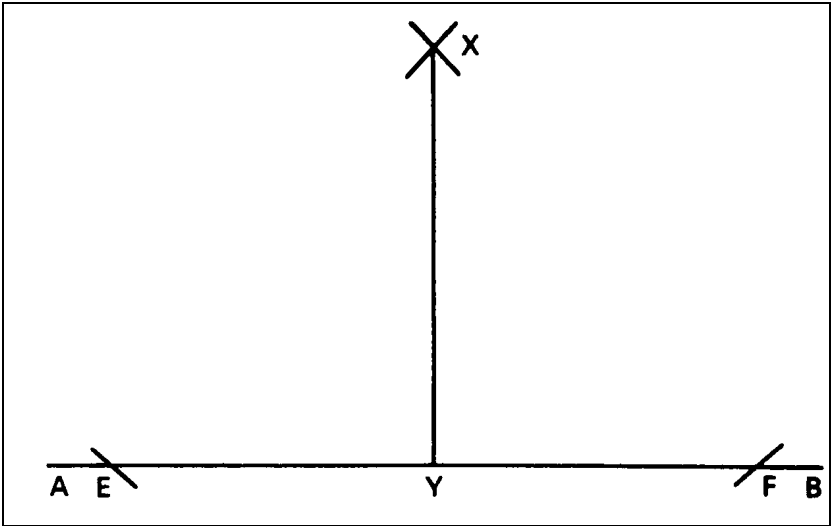

Fig 11-3-6 Setting Out a Right Angle Away from a Line
8. **To Set Out a Right Angle Away From a Line** (Fig 11-3-6), when AB is the given line and Y is the given point that the right angle to AB is required: